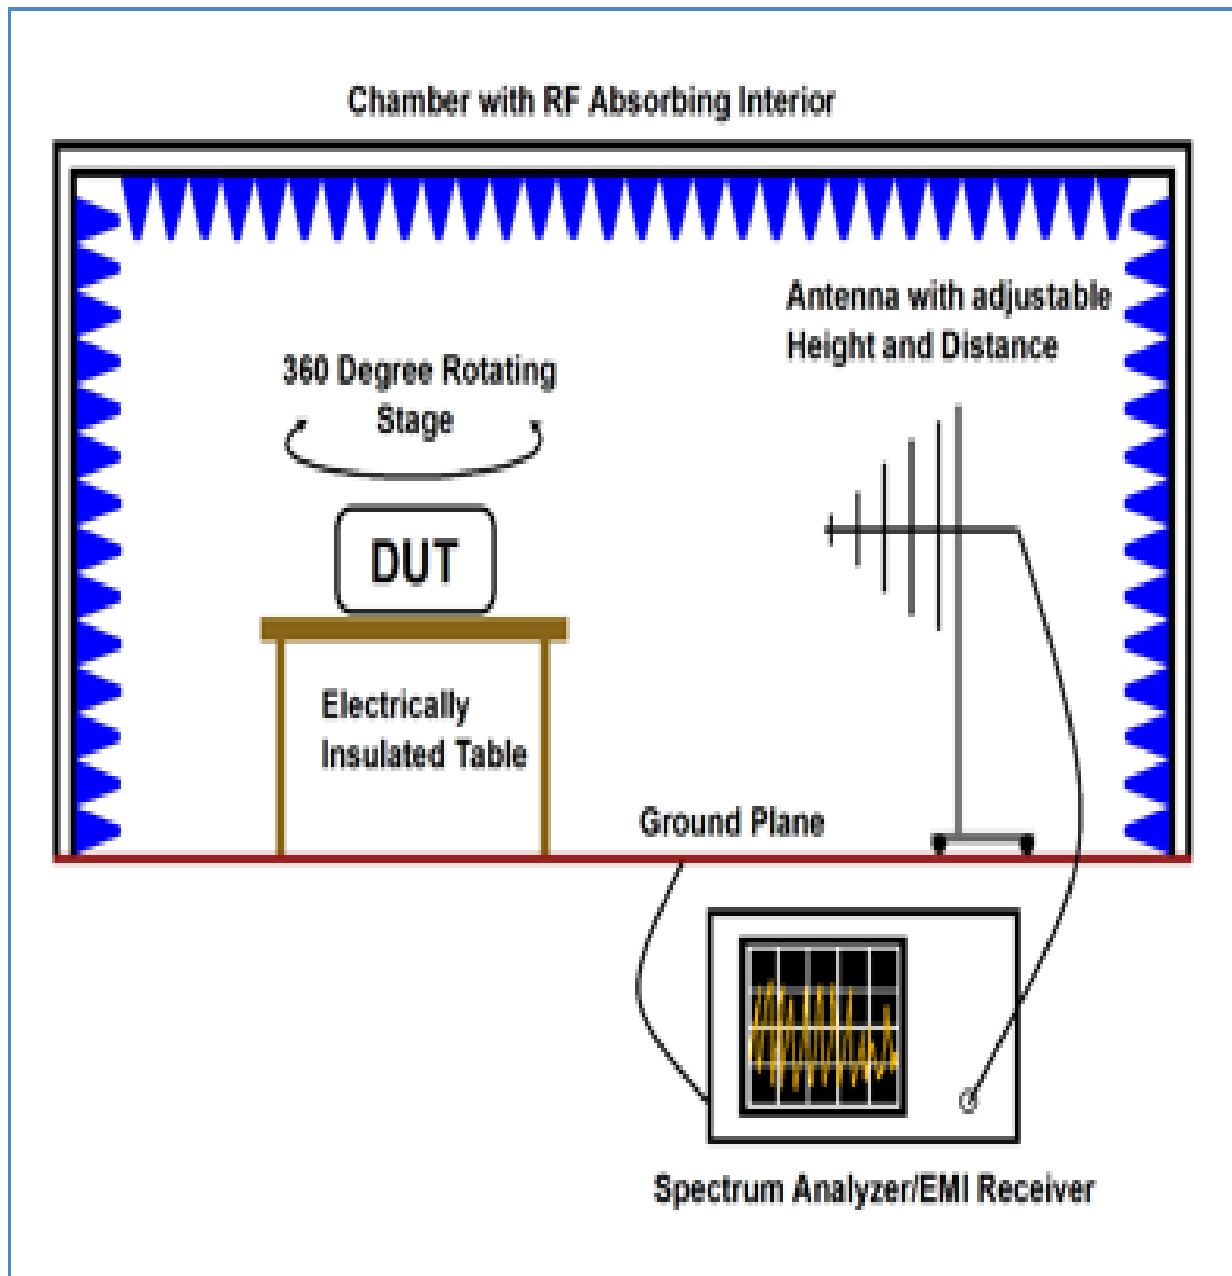

Figure 2: Magnetic field produced by a current
**Figure 2** is a physical representation of this relationship. Note, this is also described by the “right-hand-rule” wherein if you were to point the thumb of your right hand in the direction of the current flow, then the magnetic field lines form concentric rings that wrap around the conductor in the direction of your fingers.